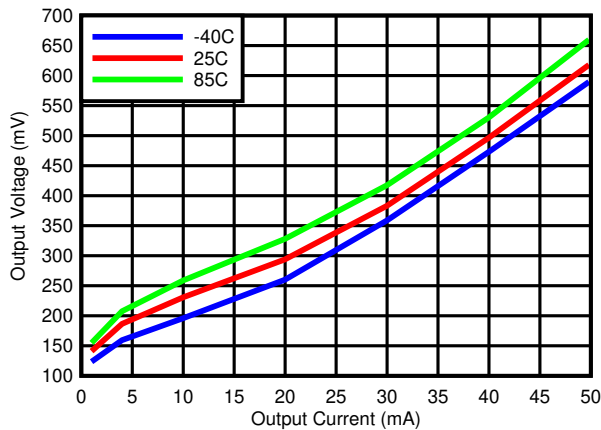
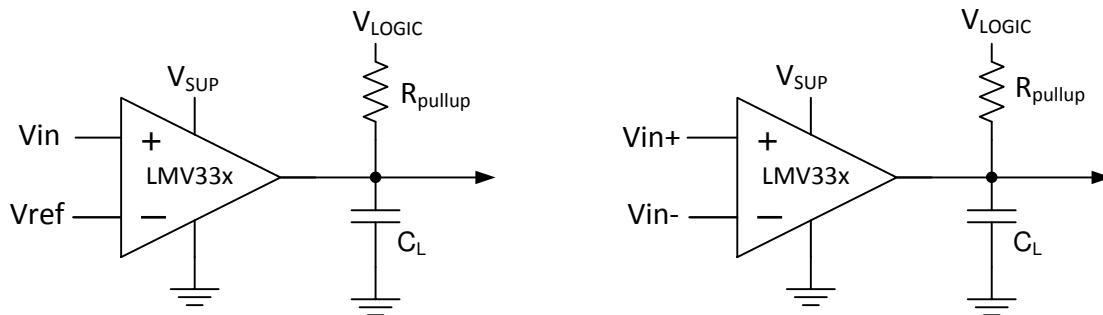

图 6-3. Output Voltage vs Output Current
图 8-1. Typical Application Schematic
The output consists of an open drain NPN (pull-down or low side) transistor. The output NPN will sink current when the positive input voltage is higher than the negative input voltage and the offset voltage. The  $V_{OL}$  is resistive and will scale with the output current. Please see Figure 6-3 for  $V_{OL}$  values with respect to the output current.
Output current is determined by the pull-up resistance ( $R_{pullup}$ ) and  $V_{logic}$  voltage, refer to 图 8-1. The output current will produce a output low voltage ( $V_{OL}$ ) from the comparator. In which  $V_{OL}$  is proportional to the output current. Use 图 6-3 to determine  $V_{OL}$  based on the output current.
- $R_{CE}$  can be determine by taking the slope of 图 6-3 in it's linear region at the desired temperature, or by dividing the  $V_{OL}$  by  $I_{out}$